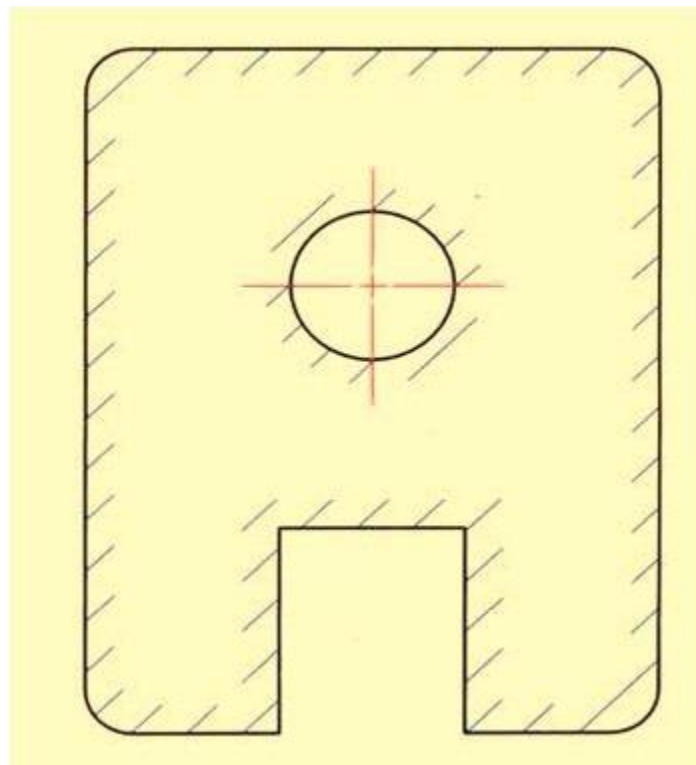

Figure 19. shows an outline section view.
- An outline section view is created by drawing partial section outlines adjacent to all object lines in the section view as shown in figure 19. For large parts, outline sectioning may be used to save time.